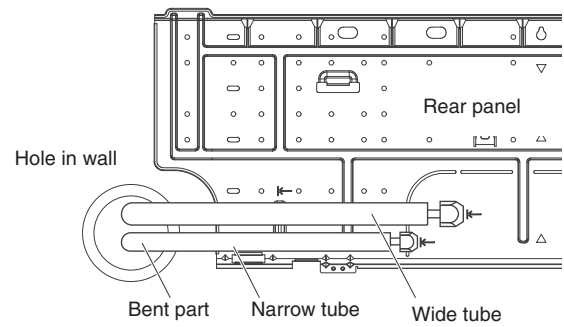

Fig. 1-81
- (1) Lead the tubing and drain hose through the wall, allowing sufficient length for connection. Then bend the tubing using a tube bender to make the attachment. (Fig. 1-81)
- (2) Switch the drain hose and drain cap.